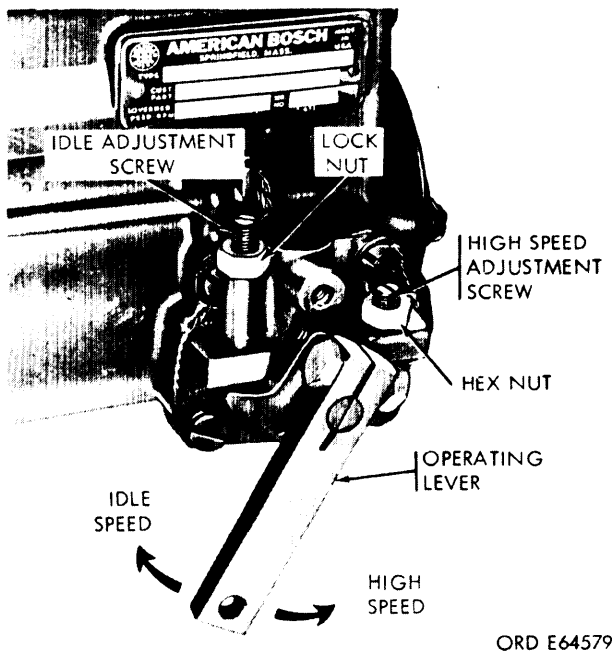

Figure 3-173. Idle and High speed adjustment.
supply filters. Then if pressure is still low, replace the over-flow valve. Fuel flow should be in accordance with Table 3-4 or 3-5, depending on pump used. If reading in the burette (F, fig. 3-162) is not within specifications, push in the fuel dumping lever (E) to clear the burettes, and repeat test. If reading is not within specifications, push in fuel dumping lever to clear burettes. Fuel flow adjustment is made by adjusting high speed adjustment screw (fig. 3-173). Loosen the hex nut and turn the screw clockwise to decrease, or counterclockwise to increase the fuel delivery. Make adjustments and repeat test until specified fuel flow is attained. Tighten hex nut to lock setting of the high-speed adjustment screw
pumps). Fuel pressure should be 30-40 psi. With operating lever in idle position, adjust low-idle speed screw to obtain fuel flow per Table 3-5 or 3-4. If reading is not within limit, loosen idle adjustment screw locknut and turn idle adjustment screw (fig. 3-173). Turn screw clockwise to increase fuel delivery and counterclockwise to decrease fuel delivery. Adjust screw to obtain specified flow, and tighten screw locknut.
(2) Adjust speed to 2850 rpm and check fuel pressure on gage (A, fig. 3-162) at compensator inlet. Fuel pressure should be 60-80 psi. Fuel flow should be in accordance with Table 3-6, depending on fuel used. Fuel flow adjustment is made by adjusting high-speed adjustment screw (fig. 3-173). (See step c. (2) above for procedure.)
(6) If fuel flow cannot be adjusted to these limits, check engagement of compensator stop plate and linkage and angular position of smoke limit torque cam. (See steps c (5) and (6) above for procedure.)
(7) Reduce speed to 700 rpm and check fuel pressure on gage (A, fig. 3-162) at compensator inlet. Fuel pressure should be 30-40 psi. With operating lever in idle position, adjust low idle adjustment screw (fig. 3-173) to obtain fuel flow per Table 3-6. (See step c(7) above for procedure.)
(8) Check 2600 rpm full-load fuel flow. If fuel flow does not fall within limits, repeat (2) through (7) above.
(1) Use one-hole nozzle and holder assemblies.
(2) Adjust speed to 3100 rpm and check fuel pressure on gage (A, fig. 3-162) at compensator inlet. Fuel pressure should be 60-80 psi. Fuel flow should be in accordance with Table 3-7, depending on fuel used, Fuel flow adjustment is made by adjusting high-speed adjustment screw (fig. 3-173). (Refer to step c (2) above for procedure.)
(6) If fuel flow cannot be adjusted to these limits, check engagement of compensator stop plate, torque link stop and guide, and the angular position of smoke limit torque cam. (Refer to c (6) above for procedure.)
(7) Reduce speed to 700 rpm and check fuel pressure on gage (A, fig. 3-162) at compensator inlet. Fuel pressure should be 30-40 psi. With operating lever in idle position, adjust low-idle adjustment screw (fig. 3-173) to obtain fuel flow per Table 3-7. (Refer to c (7) above for procedure.)
(8) Check 2800 rpm full-fuel flow. If fuel flow does not fall within limits, repeat (2) through (7) above.
(5) Loosen the pump and bracket clamp holding the pump to the rails, and tip the pump assembly to drain oil and fuel. Remove pump from test stand.
(6) Plug or cap openings in pump to prevent entry of dirt.
(7) Remove the retaining nut and lockwasher on the pump shaft, and remove the test stand drive hub from the pump,
(8) Remove the adapter ring and bracket from the pump.
(9) Torque tighten high-speed adjustment screw hex nut and the idle adjustment screw locknut to 50-60 inch-pounds (fig. 3-173).
(10) On code A pumps, install locking wire on the two socket head screws attaching the electric fuel shutoff solenoid to the pump.